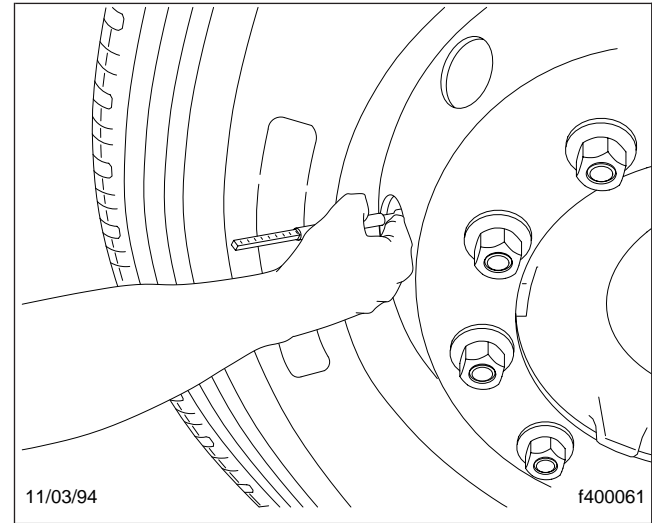

Fig. 9.13, Check Tire Pressure
43.1 Check the inflation pressures of the tires before each trip using an accurate tire pressure gauge (**Fig. 9.13**). Tires should be checked when cool. See **Table 9.1** or **Table 9.2** for the correct tire inflation pressure for the vehicle load. When traveling at unusual speeds, use **Table 9.3** to adjust tire pressure. Be sure that valve stem caps are on every tire and that they are screwed on finger-tight. Inflate the tires to the applicable pressures if needed.